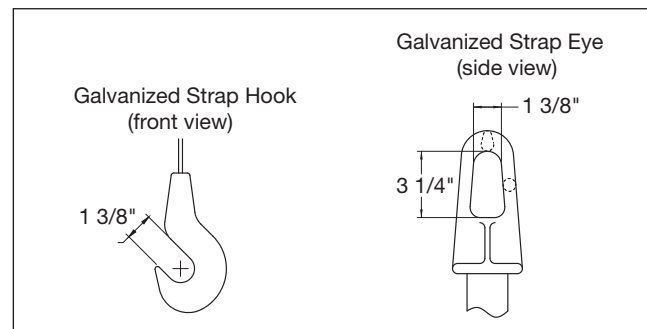

FIGURE 8-3
8.3.6. Use only appropriately sized hardware with the strap eye. See *FIGURE 8-3* for dimensions of strap eye.